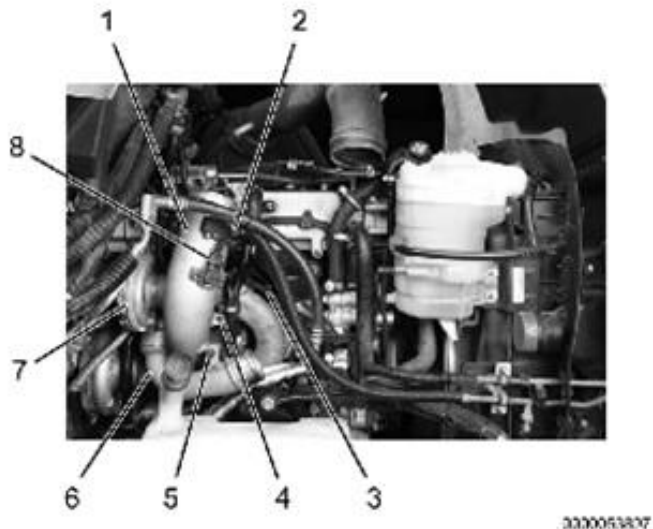

Figure 15. HP and LP Turbocharger Connections
11. Install LP turbocharger inlet duct (Figure 15, Item 1) on LP turbocharger with two LP turbocharger inlet duct bolts (Figure 15, Item 4).
12. Install HP turbocharger outlet duct (Figure 15, Item 6) on HP turbocharger (Figure 15, Item 7) with two HP turbocharger outlet duct bolts (Figure 15, Item 5).
13. Connect AIT sensor connector (Figure 15, Item 8).
14. Connect TC2CIP sensor connector (Figure 15, Item 3).
15. If equipped, connect MAF sensor connector (Figure 15, Item 2).